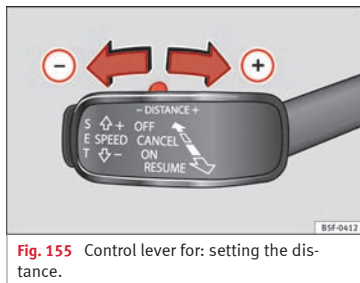

Fig. 155 Control lever for: setting the distance.
- To display the distance currently programmed, briefly press the rocking button » **Fig. 155**.